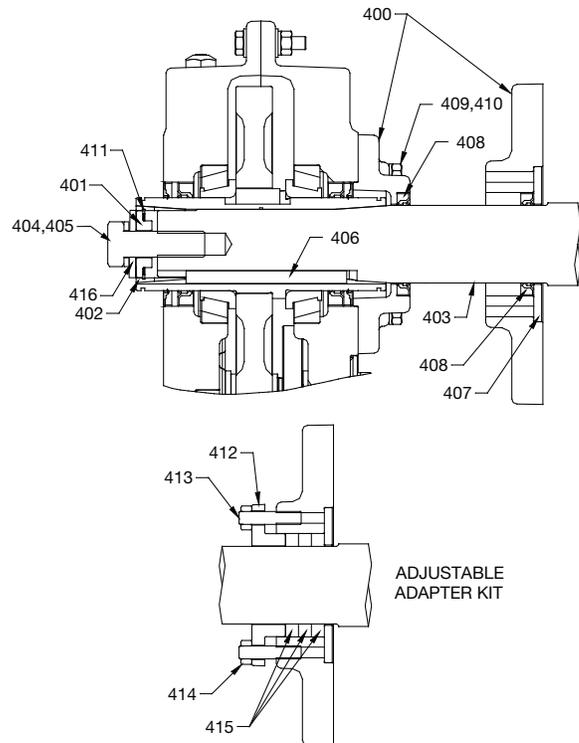

Figure 15: Screw Conveyor Adapter Assembly
9. Install seals (408) into adapter housing as shown in Figure 15. If the optional packing adapter is to be used, install only one seal in the small end of the adapter. Use extreme care when installing seals to avoid damage to the seals. Press or tap seals into place by applying pressure only on the outer edge of the seal. Make sure seals are install evenly and are not tilted.
10. If using the optional packing adapter, install the two studs (413), retaining ring (412), and two nuts (414). Thread the nuts onto the studs about 4–5 threads. Install the three braided type seals (415) in a circular direction into the adapter cavity. Shoulder the braided seals against the adjustable retaining ring (412). To aid in installation of the driveshaft in step 7, the braided seals can be flattened out slightly with a soft hammer prior to installation. When installing the braided seals offset the joints from each other.
11. Lightly tap the large washer (407) into the counterbore on the large end of the adapter to seal the braided material installed in step 2 or the seal installed in step 1.
13. Position screw conveyor adapter (400) on the reducer output hub so that the small end (end with four drilled holes) rests on reducer. The approximate 3.0mm piloting projection should locate in the output seal bore next to the auxiliary seal. Adapter projection should not touch the face of the gear case casting.
14. Place four adapter screws (409) and lock washers (410) through the adapter and thread into the reducer. Tighten the four cap screws (409) to the torque specified in Table 11.
16. Install the retaining ring (411) into the screw conveyor wedge (402). Making sure the driveshaft is fully seated into the reducer, slide the wedge onto driveshaft.
17. Install keeper plate (401), support washer (416) (sizes TA6307 and TA7315 only, driveshaft cap screw (404), and lockwasher (405). Torque to specifications in Table 11.